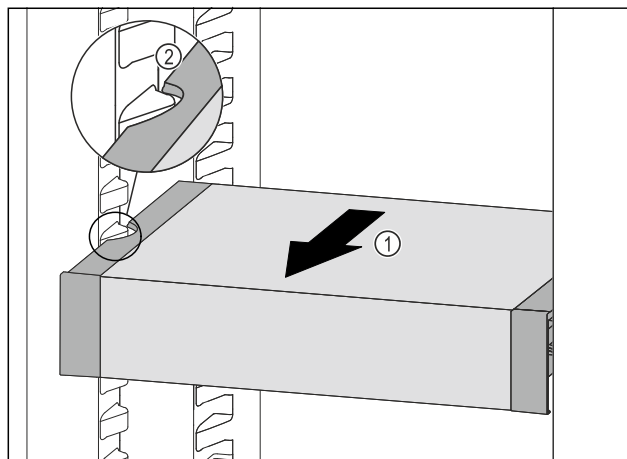

Fig. 127
- ▶ Pull VarioSafe forwards Fig. 127 (1) until the recesses in the side of the VarioSafe are at the level of the support rib in the fridge section. Fig. 127 (2)